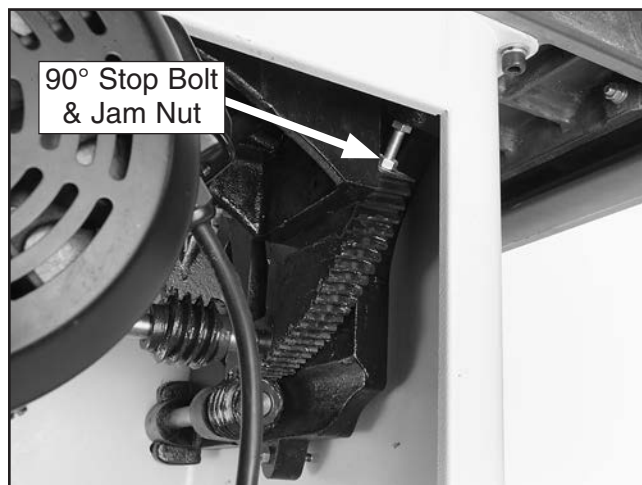

Figure 107. 90° stop bolt and jam nut.
5. Open the motor access cover, loosen the jam nut shown in **Figures 107** and **108**, adjust the stop bolt up or down according to how far off the blade was from 90°, then repeat **Steps 2-3** until the blade stops at 90°.